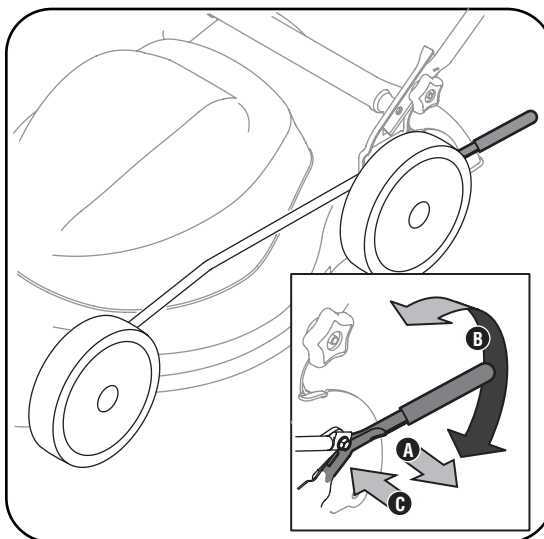

Figure 3-7: Use adjustment lever to change height.
1. The cutting height adjustment lever is located above the rear left wheel. See Figure 3-7.